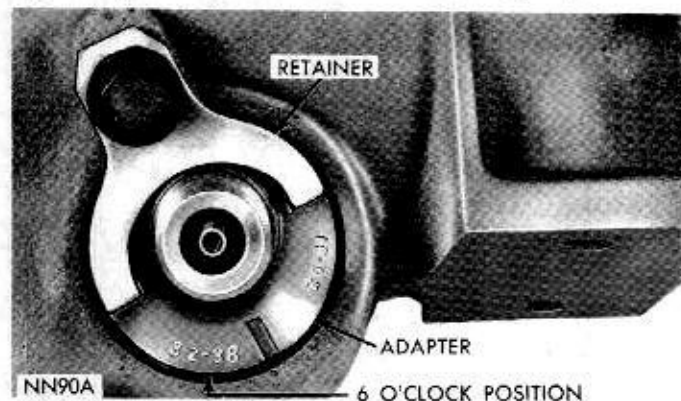
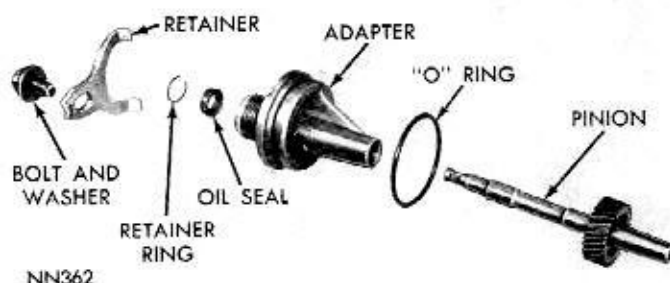
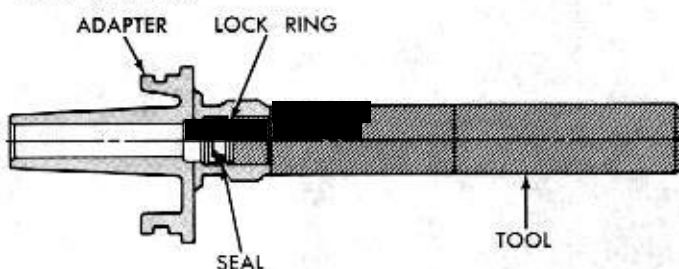

Fig. 7—Speedometer Pinion and Adapter Installed
Fig. 8—Speedometer Pinion and Adapter—Disassembled
Fig. 9—Installing Speedometer Pinion Seal
(1) Place drain pan under adapter or drain transmission.
(2) Remove bolt and retainer securing speedometer pinion adapter in extension housing (Fig. 7).
(3) With cable housing connected, carefully work adapter and pinion out of extension housing.
(4) If transmission fluid is found in cable housing, replace seal in the adapter (Fig. 8). Start seal and retainer ring in adapter, then push them into adapter with Tool C-4004 until tool bottoms (Fig. 9).
(5) Note number of gear teeth and install speedometer pinion gear into adapter (Fig. 8).
6 o'clock position as the assembly is installed (Fig. 7).
(1) Remove bolt and retainer securing speedometer pinion adapter in extension housing (Fig. 7). Carefully work adapter and pinion out of extension housing.
(2) Remove bolts which attach extension housing to transmission case. Slide extension housing off mainshaft.